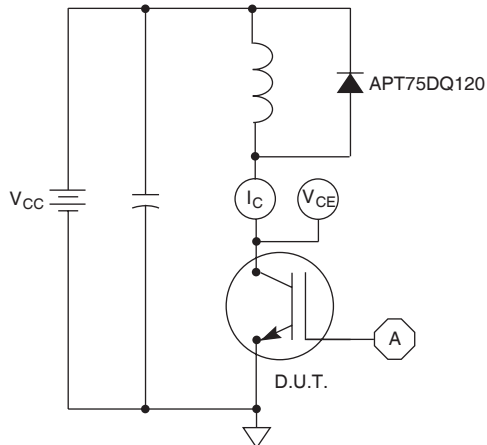

Figure 21, Inductive Switching Test Circuit
① Repetitive Rating: Pulse width limited by maximum junction temperature.
② For Combi devices, I_{ces} includes both IGBT and FRED leakages
③ See MIL-STD-750 Method 3471.
④ E_{on1} is the clamped inductive turn-on energy of the IGBT only, without the effect of a commutating diode reverse recovery current adding to the IGBT turn-on loss. Tested in inductive switching test circuit shown in figure 21, but with a Silicon Carbide diode.
⑤ E_{on2} is the clamped inductive turn-on energy that includes a commutating diode reverse recovery current in the IGBT turn-on switching loss. (See Figures 21, 22.)
⑥ E_{off} is the clamped inductive turn-off energy measured in accordance with JEDEC standard JESD24-1. (See Figures 21, 23.)
⑦ R_G is external gate resistance, not including $R_{G(int)}$ nor gate driver impedance. (MIC4452)
⑧ Current limited by lead temperature.